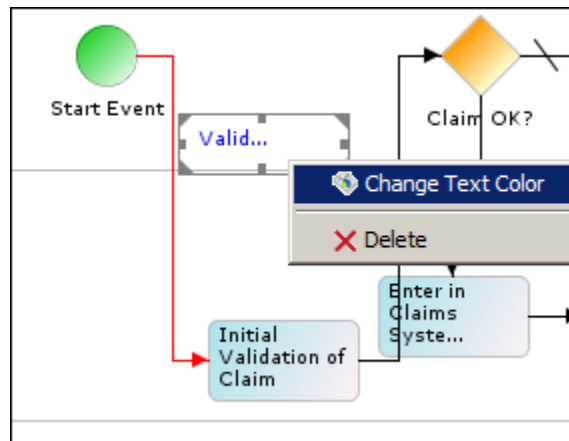

Figure 40: Change Text Color
- Right-click the Label and select **Change Text Color** (see Figure 40).